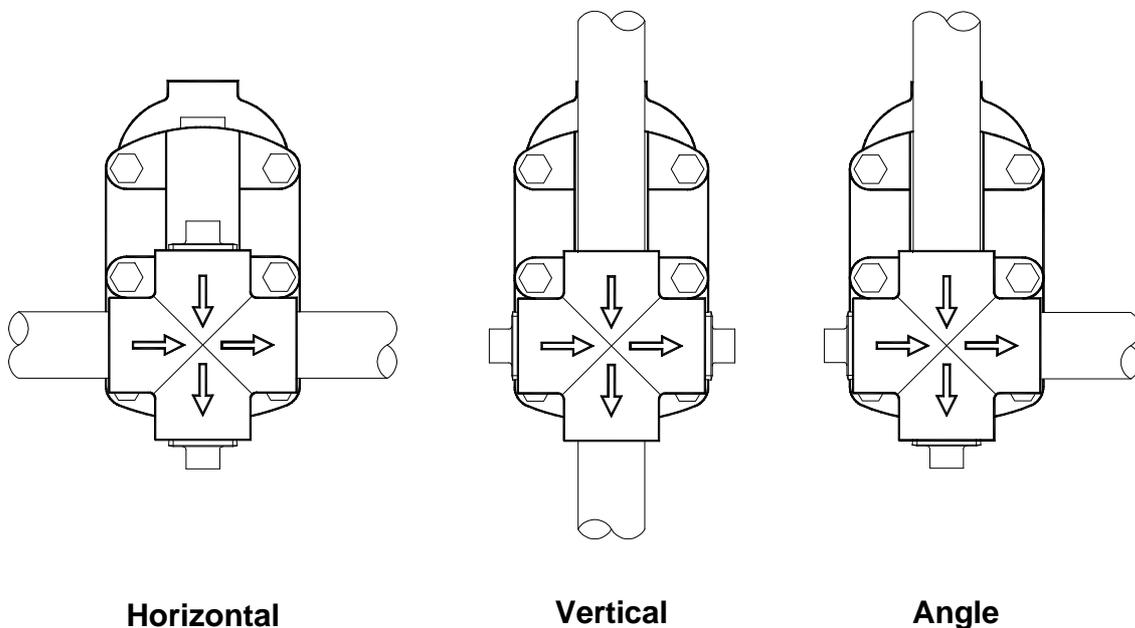

Fig.1
– horizontal, vertical or angle Fig.1. Two plugs are supplied to blank off the connection